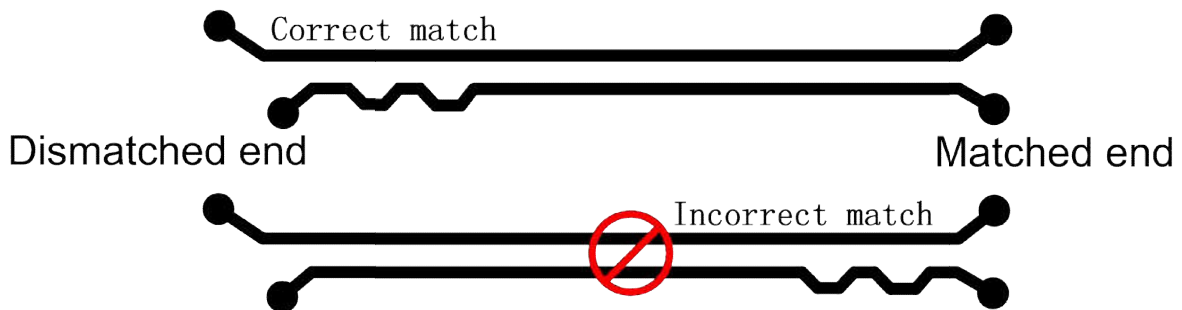

Figure 3-11 Length Match Design of PCIe Difference Pair
•The difference in length of two data lines in difference pair should be within 5mil, and the length match is required for all parts. When the length match is conducted for the differential lines, the designed position of correct match should be close to that of incorrect match, as shown in Figure 3-11. However, there is no specific requirements for the length match of transmit pair and receiving pair, that is, the length match is only required in the internal differential lines rather than between different difference pairs. The length match should be close to the signal pin and pass the small-angle bending design.